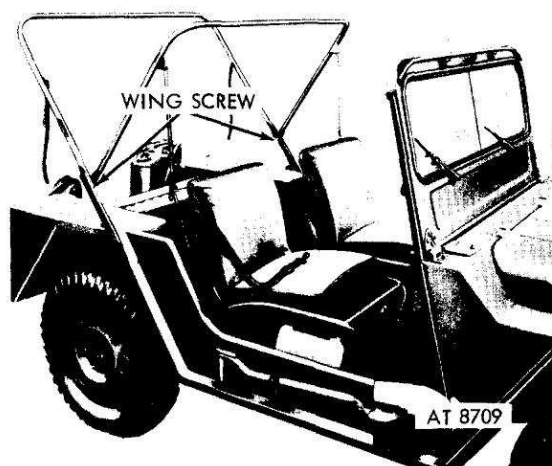

Figure 2-21. Bows erected.
g. Raise bows upward and forward over the vehicle, aline holes in bows, and install two wing screws (fig 2-21).